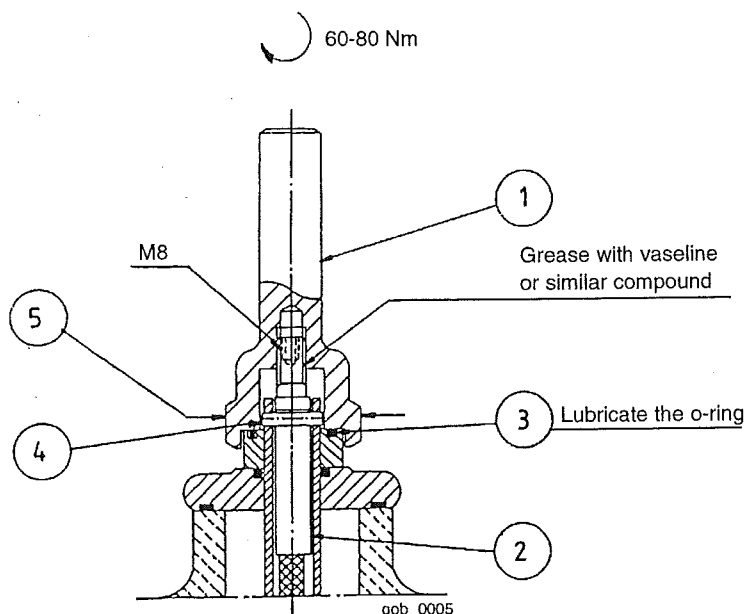

Fig. 7. Outer and inner terminal stud.
6. Lock the inner terminal with the locking pin according to Fig. 7.
4. Screw on the outer terminal and tighten with 60-80 Nm according to Fig. 7.